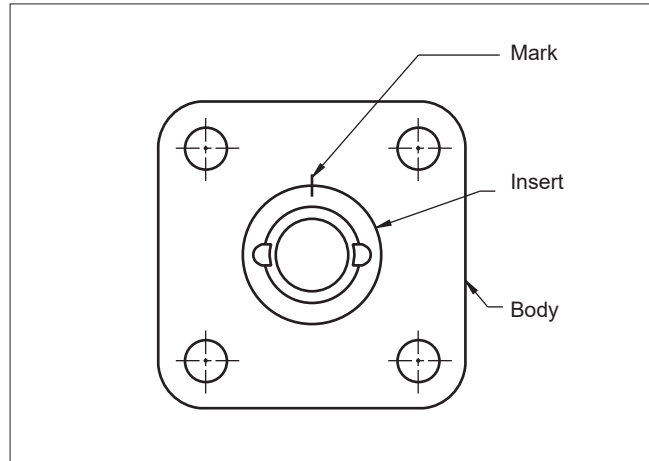

Figure 4.
2. From inside of the body cavity, insert one stem bearing (24), then one stem seal (7), then the second stem bearing (24) up into the lower stem counterbore.
3. From the outside of the body, insert the two upper stem seals (8) into the upper stem counterbore.
4. Insert the stem (4) into the body cavity (threaded end first) and press it gently up into the stem bore until resistance is felt from the lower stem bearing. Be careful not to scratch the seals.
5. Holding the stem in place from inside the body, drop the compression ring (21) over the threaded end of the stem protruding out of the body stem bore. Follow the same procedure with the slotted stem washer (50) and then screw on one stem nut (16).
7. Using a spanner wrench, screw the insert (2) into the body until it is fully seated. Mark the position as shown in (**Figure 4**). Counting the number of turns, remove the insert.
8. Insert the ball (3) rotating it onto the stem (4) in the closed position. If necessary, turn the stem blade to align with the ball slot.